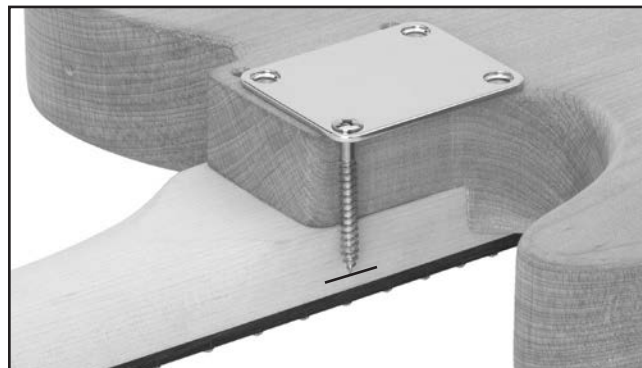

Figure 19. Using screw tip depth to set depth stop.
2. Place the neckplate on top of the body so a mounting hole protrudes beyond the body and neck (see **Figure 19**).